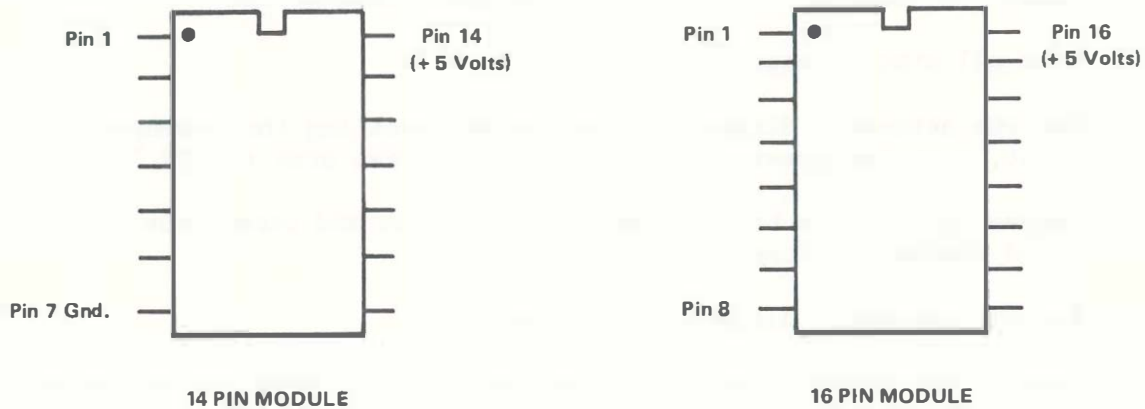

Figure 3-6. Pin Identification
Using the VOM, verify that the +5 Volt supply to the malfunctioning feature board is at least 4.8 Volts. This is done by measuring between pins 7(-) and 14(+) on a 14-pin integrated circuit (IC) or between pins 8(-) and 16(+) on a 16-pin IC. Figure 3-6 identifies pins 7 and 14 on a 14-pin IC, and 8 and 16 on a 16-pin IC.